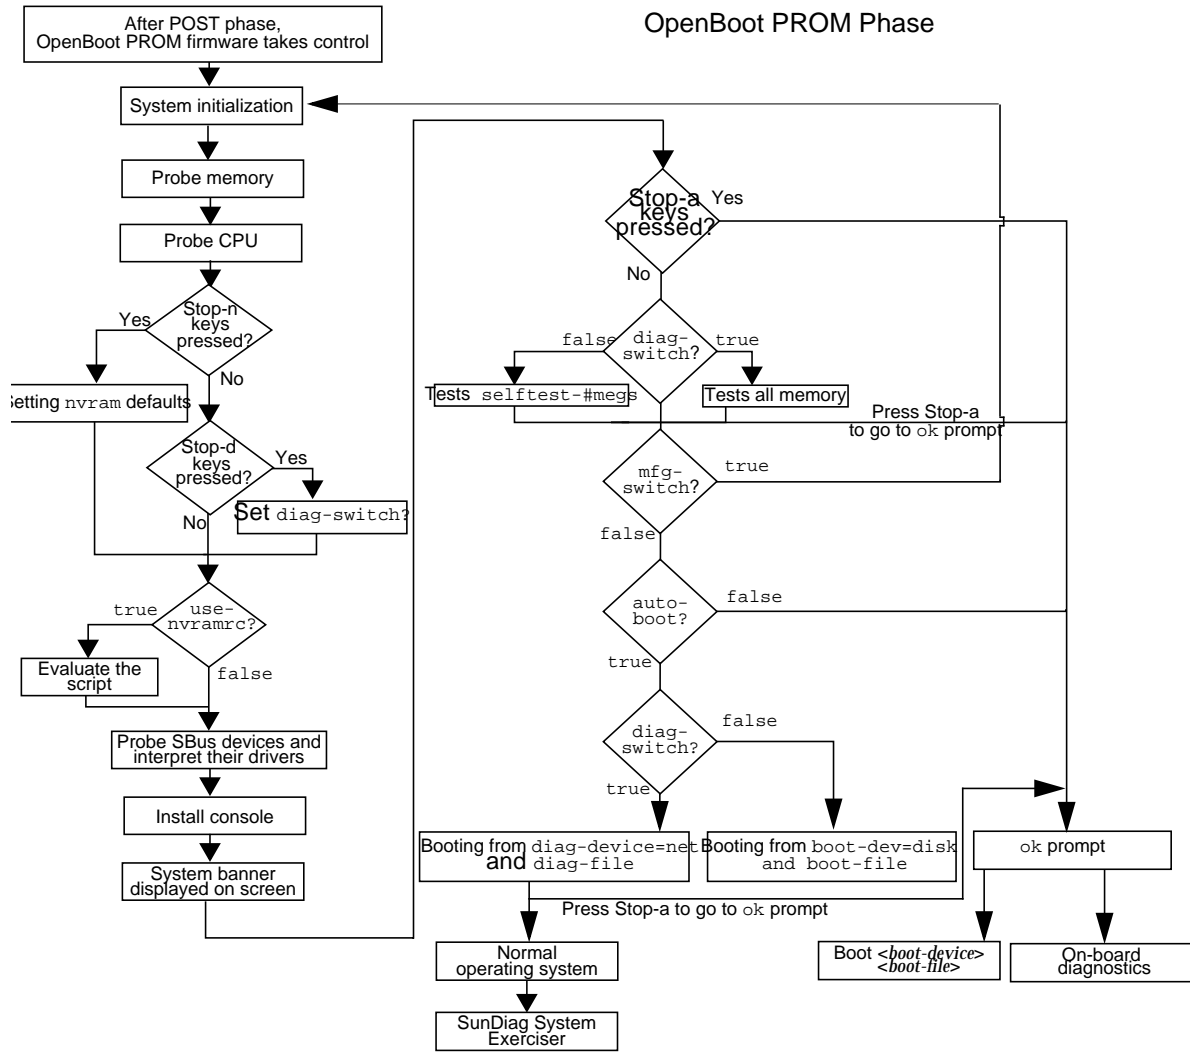

FIGURE 2-2 Factory-Defined Boot Sequence—OpenBoot PROM Phase Settings and Tests
The flowcharts in FIGURE 2-1 and FIGURE 2-2 outline the roles played by various diagnostics during a *factory-defined boot* operation under the control of the OpenBoot™ PROM (OBP) firmware.
FIGURE 2-1 (POST phase) and FIGURE 2-2 (OBP phase) graphically depict the flow of OBP processing control, after power is switched on. Each figure depicts the possible paths for processing control, and the switch settings for the factory-defined boot sequence. By examining the two flowcharts you can see where in the processing sequence other diagnostic tests are available or are encountered.
- Install the console (see FIGURE 2-2)